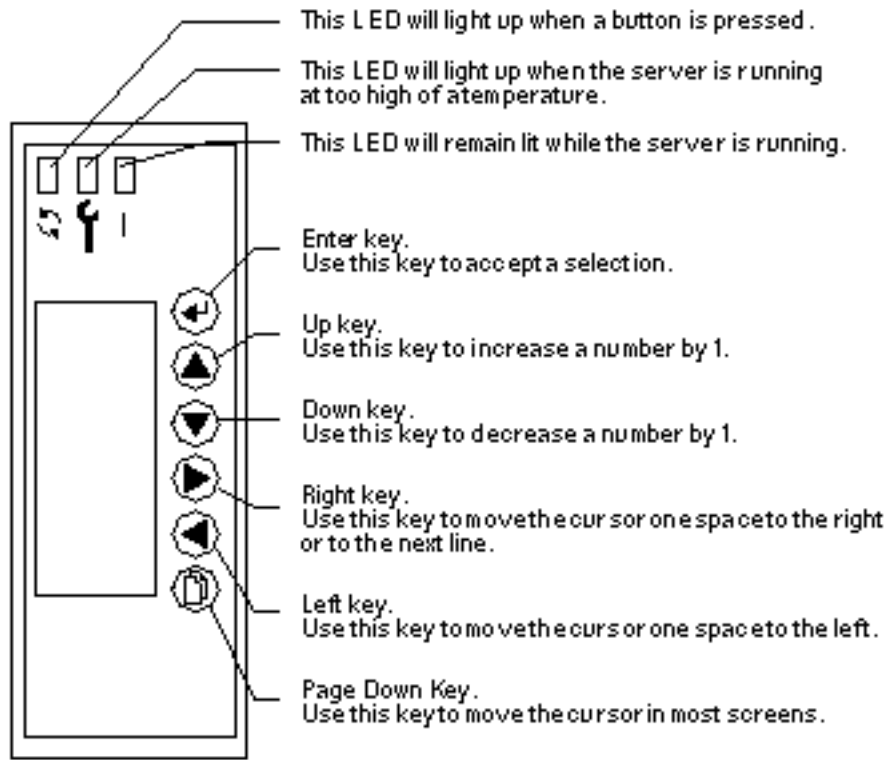

Figure 1-13 Netra 150 Server LCD Display
2. **Familiarize yourself with the LCD display at the front of the Netra 150 server (Figure 1-13).**